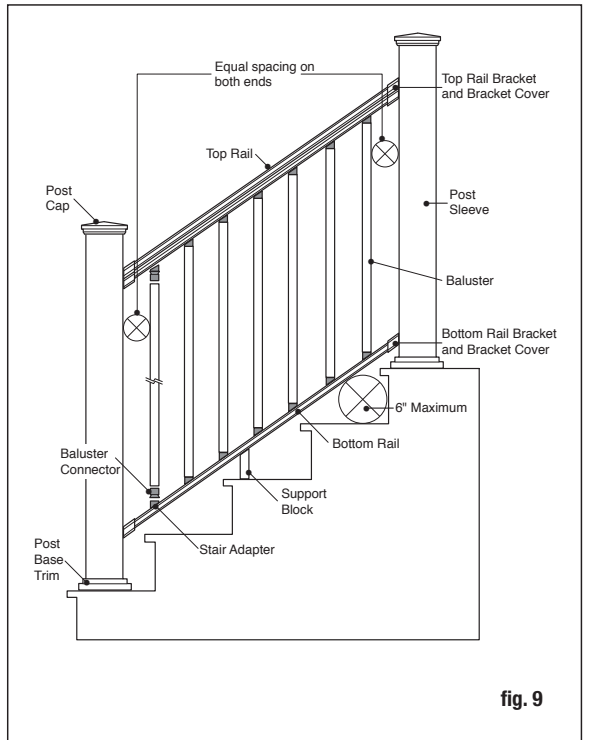
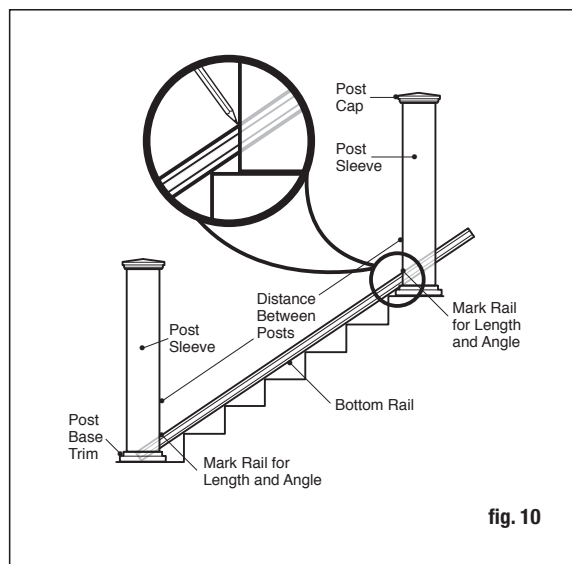

fig. 9
fig. 10
Step 6: Measure the distance between installed post sleeves to determine the length of the top and bottom rails. Place the bottom rail on the stair treads next to the posts and adjust so the distance between the first baluster hole and post is greater than 1-3/4" or equal on both ends (refer to previous page for fig. 9). Mark the rail to the proper length and angle. Cut the bottom rail. Cut the top rail to the same length and angle (fig. 10).
Step 8: Place the proper rail bracket covers and stair brackets on the ends of the bottom rail. Pay particular attention to the brackets being used, as they differ based on top/bottom rail and up/down angle. Prop the bottom rail between the posts on the stair treads (fig. 10). You may need to place equal shims between two stair tread noses to elevate the bottom rail. Check for requirements in your area. Typically, a 6" sphere may not be allowed to pass through the triangle formed by the bottom rail, tread and riser (refer to previous page for fig. 9). Center the stair bracket on the post. Using the stair bracket as a guide, mark the screw positions on the post sleeve and rail on both ends. Pre-drill 1/8" pilot holes through the post sleeve and rail. Attach the stair bracket to the post sleeve using the #8-15 x 2" - #2 square drive flat head screws and then attach stair bracket to rail using #8-16 x 3/4" - #1 square drive wafer head self-drilling screws.